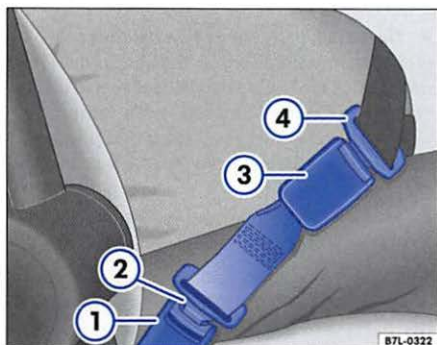

Fig. 17 Attached safety belt extender to the vehicle's safety belt
– Insert the metal tongue of the extender into the respective safety belt buckle ⇒ fig. 17 ①.
– Grasp the belt tongue of the safety belt ④ and pull the belt in a continuous slow motion across your chest and lap.
– Insert the safety belt tongue ④ into the buckle of the extender ③ and push down until it is securely locked with an audible click.
- ① Safety belt buckle ⇒ fig. 17
- ② Tongue of extender ⇒ fig. 17
- ③ Buckle of extender ⇒ fig. 17
- ④ Vehicle safety belt ⇒ fig. 17